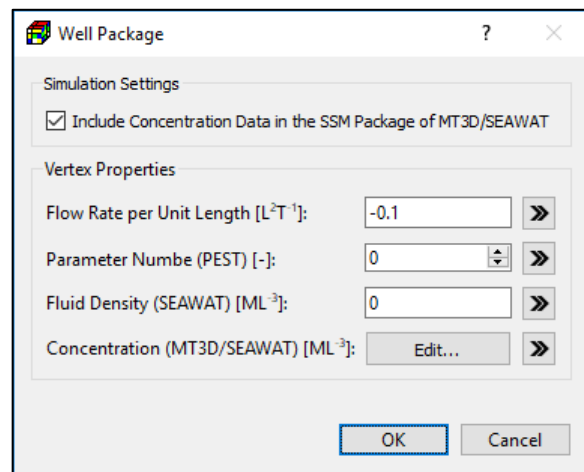

Figure 102. The Well Package dialog box for specifying vertex properties
3. **Polyline input method:** Figure 102 shows the dialog box for specify the following data to one or more vertices of a polyline. These vertex data can then be interpolated to model cells following the rules described in Section 3.4.2.2 and additional rules below.